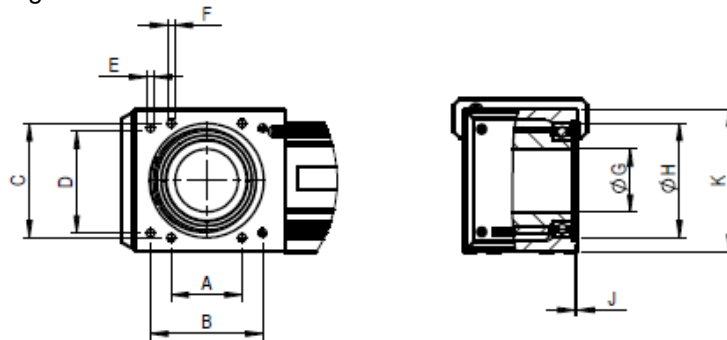

Fig. 15 Mounting of third-party gearboxes
- A matching adapter to the mounting surface (Fig. 15) incl. centring collar must be manufactured. The supporting surfaces are the same on the left and right.